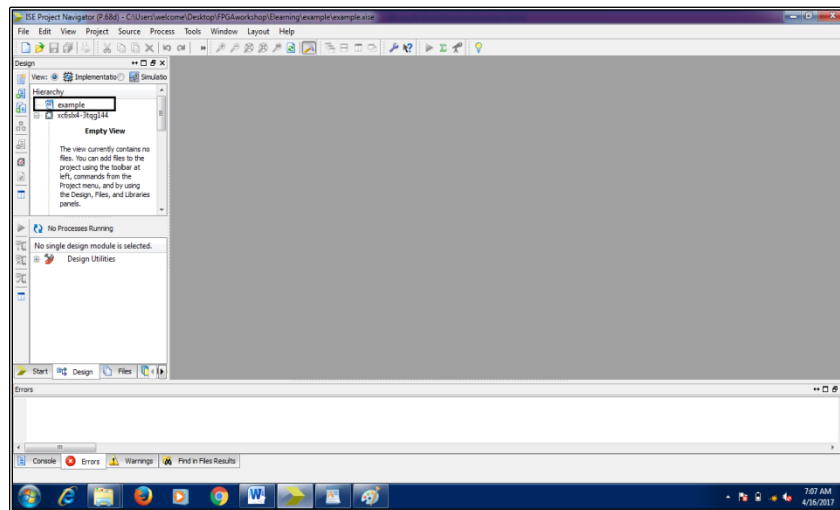

Fig C.6
6. The ISE Project Navigator interface will be as shown in Fig C.6.